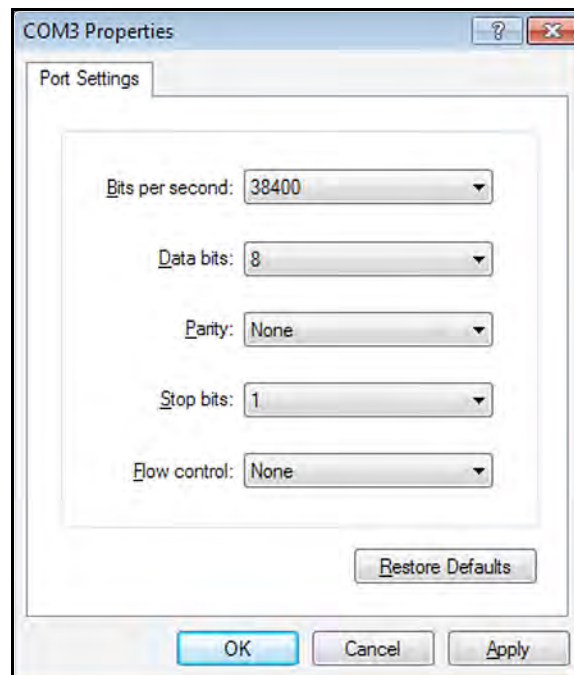

Figure 10: COM Properties
2. Start HyperTerminal and set up the communication link (see *Figure 10* below) to match the PT878 Com port settings.